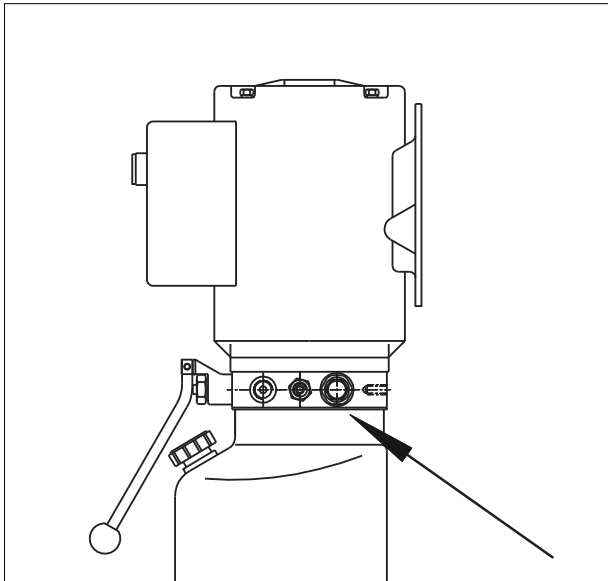

Fig. 13
- ◆ The maximum pressure valve (Fig. 13), located on the hydraulic oil power unit, will trip if the lift is overloaded.